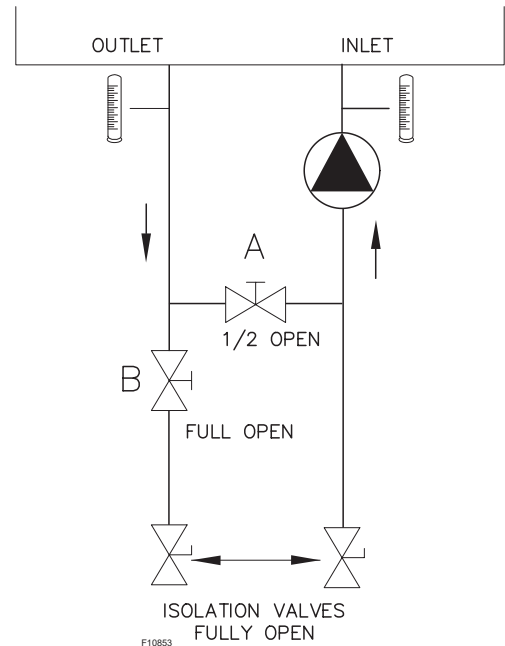

Figure 11. “H” Bypass Setting
Hydronic systems where the inlet water temperature is initially below 120°F (49°C) and then rises above that temperature **MUST** have a low-temperature operation system (**Figure 9** through **Figure 11**) to prevent problems with condensation. Inlet water temperatures below 120°F (49°C) can excessively cool the products of combustion, resulting in collection of condensate in the heat exchanger area beyond the capacity of the condensate evaporation system.
3. With the heater operating at 100% firing rate, set Valve A (the bypass) to ½ open position, and Valve B to fully open position. See Figure 11.
5. If this process does not raise the inlet water temperature to 105°F (40°C) for Pool Heater (P) versions and 120°F (49°C) for Hydronic Heating (H7) or Domestic Hot Water (WH7) versions and Valve A is fully open, then slowly throttle Valve B closed to increase the inlet water temperature to the required temperature.